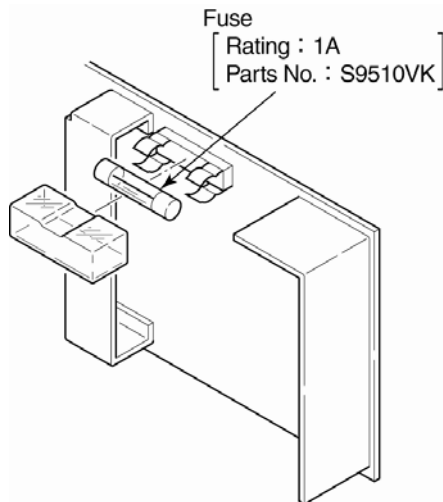

Figure 6-1 Replacement of Fuse
- (1) Remove the fuse holder cap, then pull the fuse out in the direction shown in Figure 6-1.
- (2) When installing a new fuse, use a fuse with the correct rating. Fasten the cap securely.